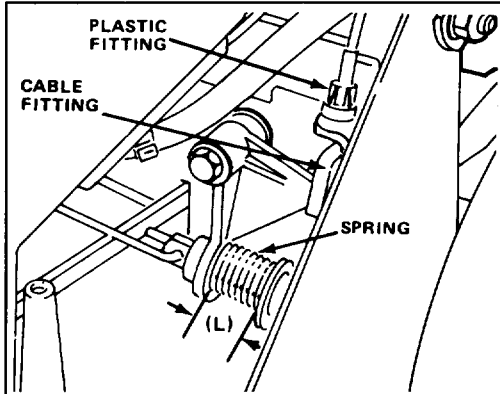

Figure 22
3. Move control bar down and lift up against handle. With control bar against handle, measure spring length (L) at the front of the spring as shown in figure 22.